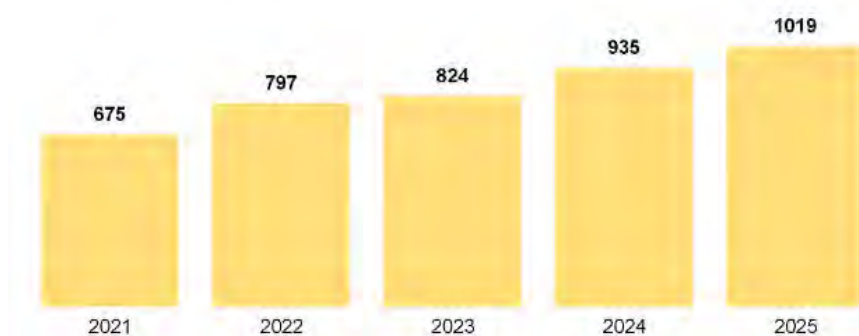

Figure 2C: Less serious DCV marine incidents (2021 - 2025)
- ❑ less serious marine incidents increased by 9 per cent, or 84 additional reports, compared with 2024 (Figure 2C).